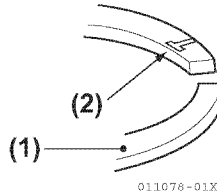

Figure 5-136
- Install each piston ring on the piston, with the punched manufacturer's mark facing upward (Figure 5-136).